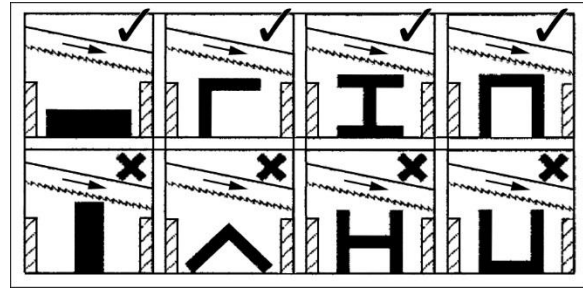

Figure 9-1: clamping positions
- 3) Position workpiece in vise and tighten vise. Workpiece should be fitted directly between the jaws without adding other objects. When work piece is profiled section, flat piece or special shape, refer to examples in Figure 9-1 for proper clamping positions. The top row shows acceptable clamping positions, the bottom row show *unacceptable* positions.